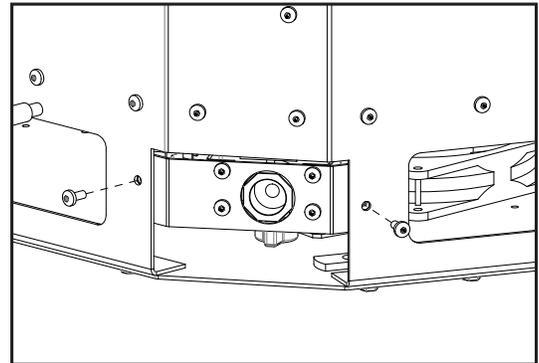
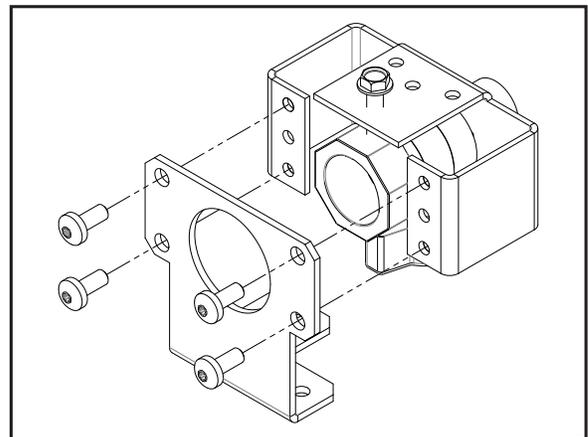

Figure 80: Gas Plate Disconnection
Figure 82: Gas Adapter Connection
1. Disconnect the two (2) T20 screws securing the ball valve plate (see Figure 80).
2. Disconnect the four (4) T20 screws securing the ball valve.
3. Loosen off ball valve jam screw and reattach ball valve cradle onto the relocation plate (included in the manual bag, refer to Figure 82 for proper geometry and orientation). Re-tighten jam screw and ensure ball valve is secure.